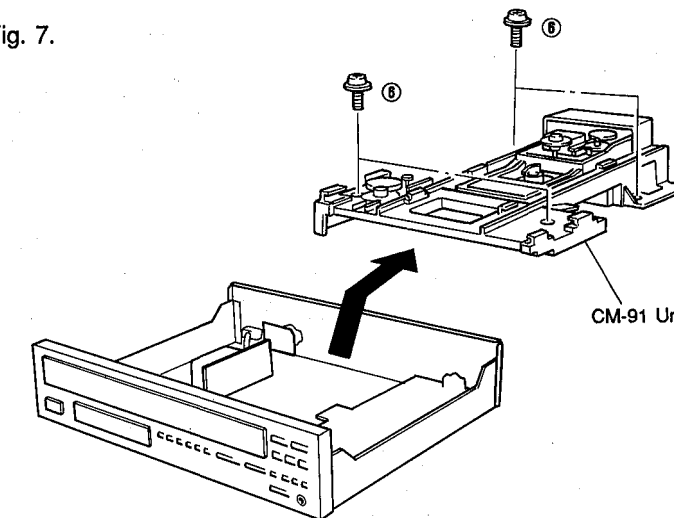

Fig. 7
a. Remove 4 screws ( ⑥ ) as shown in Fig. 7.
b. Take out the CM-91 Unit out slowly as shown in Fig. 7.